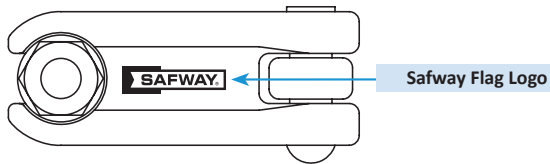

Figure 5 – Narrow Cap Style (Bottom View)
1. The Safway flag logo is located on the cap. If the clamp does not have the logo on the cap, it is not a CRA2B and may not have the same Safway-recommended features or load capacities (Figs. 5 & 6).